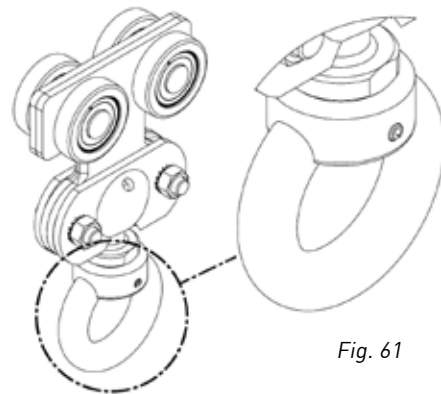

Fig. 61
- Every six months, check the tubular safety pin for wear or excessive rust and replace if necessary. (fig. 61)